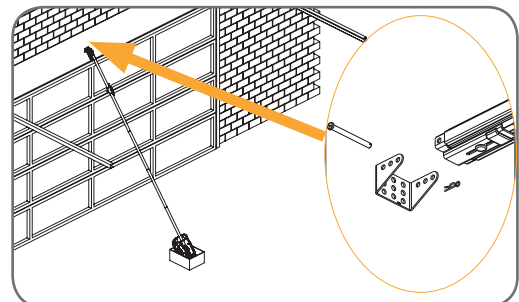

fig 16
- Attach the c rail assembly to the wall bracket with the 90mm long clevis pin and secure with the supplied snap pin (**Fig. 16**)
- Attach the bracket and C-Rail with supplied pins (Fig. 16).